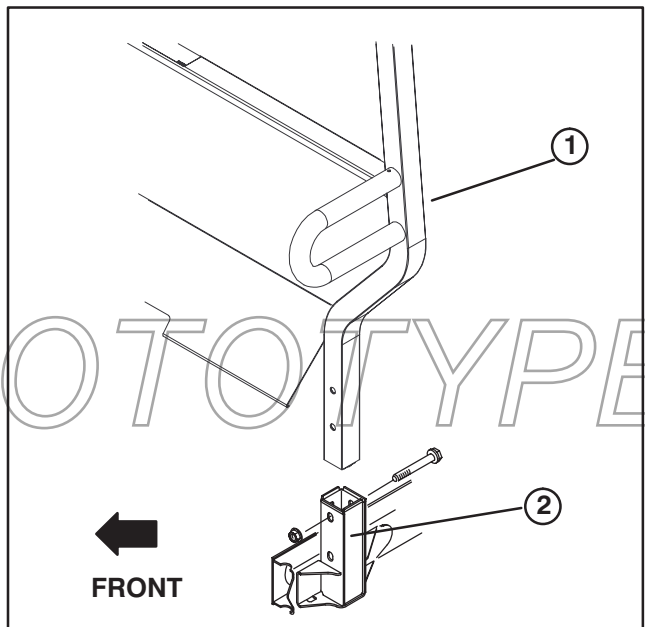

Figure 4
INSTALL ROPS (Fig. 4)
1. Insert each side of ROPS into mounting bracket on each side of vehicle frame, positioning ROPS as shown in figure 4.
2. Secure each side of ROPS to mounting brackets with (2) 1/2–13 x 3" lg. capscrews and locknuts.